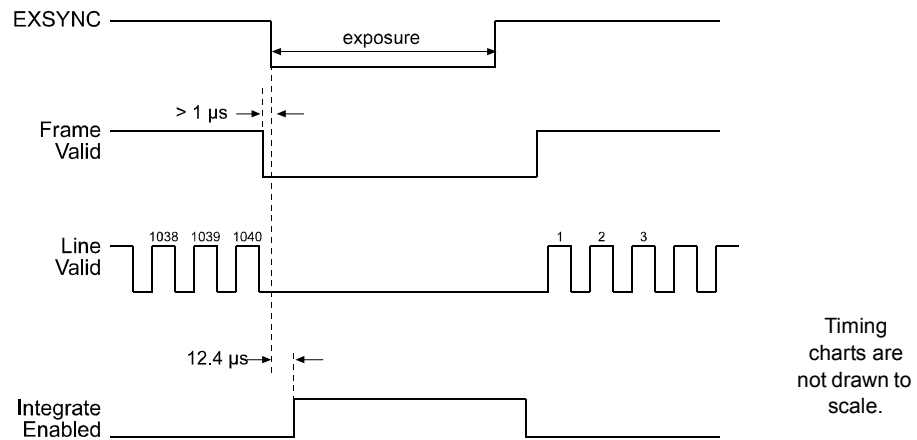

Figure 3-5: ExSync, Level-controlled Mode - Exposure Start with Frame Valid Low
- In case two (see Figure 3-5), the falling edge of ExSync occurs after the previously captured frame has been transmitted, that is, when frame valid is low. This will occur when the frame rate is medium or low.
If the ExSync signal falls while frame valid is low as shown in Figure 3-5:
<p>As shown in Figure 3-5, FVAL must be low for at least 1 μs before the ExSync signal falls.</p>